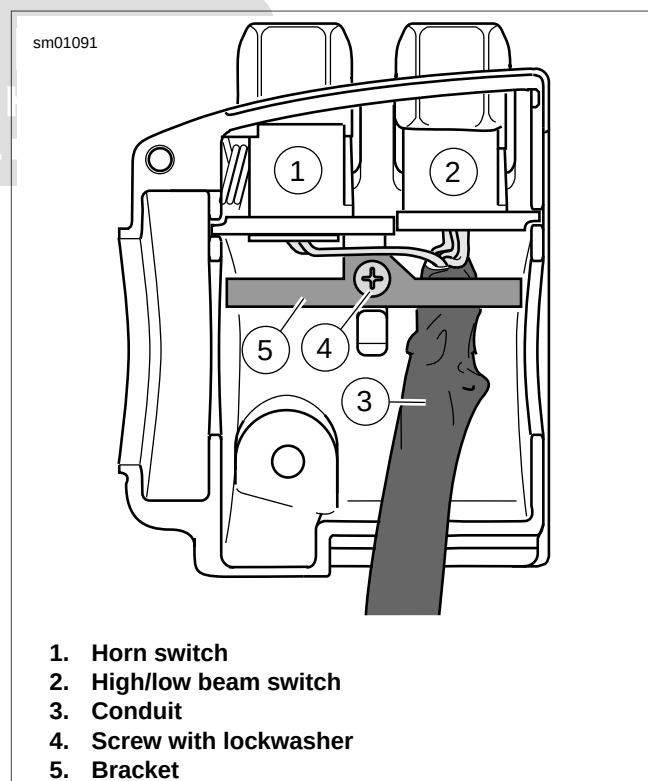
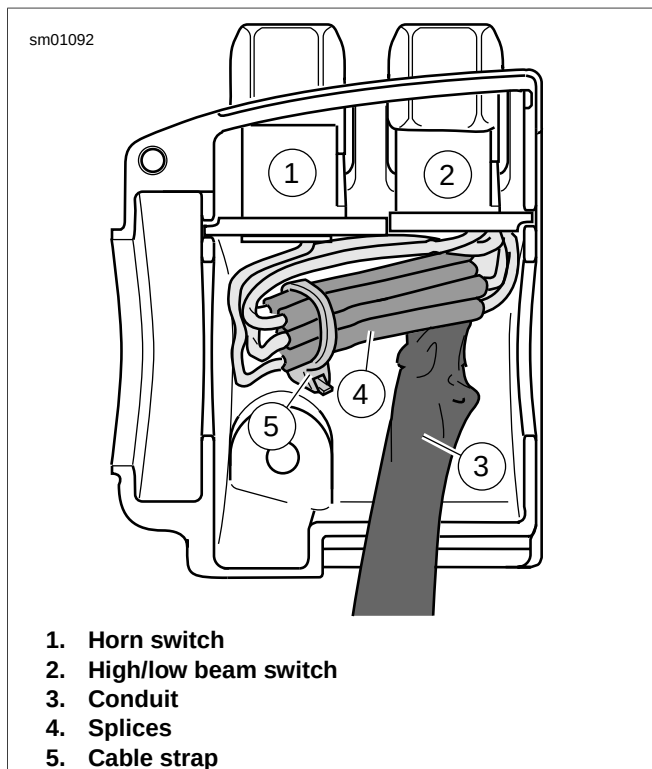

Figure 6-152. Upper Housing Without Splices
Figure 6-153. Upper Housing With Splices
1. See Figure 6-152. From inside the switch housing, remove the screw with lockwasher (4) to release the bracket (5). Remove bracket and switch assembly from the housing.
2. Move cable conduit (3) from beneath wing of bracket. Cut wires 0.25 in. (6.4 mm) from old switches (1, 2). Discard old switch and bracket assembly.
3. Slide conduit forward over cut ends of switch wires and cut off 0.5 in. (12.7 mm) of conduit (3) material. Push conduit back to access switch wires.
4. Separate the **new** horn switch (1) and high/low beam switch (2) wires into two bundles.
6. Loop switch wires so that spliced lengths are positioned as shown in Figure 6-153. Route wires downstream of splices beneath wing on high/low beam switch side of bracket as shown in Figure 6-152.
7. See Figure 6-153. Install a **new** 7.0 in. (177.8 mm) cable strap (5) beneath wing on horn switch side (1) of bracket and capture wire splices (4).
9. See Figure 6-152. Install screw and lockwasher (4) to secure bracket (5) inside housing. Verify that wing on high/low switch (2) side of bracket captures edge of conduit (3) as shown.